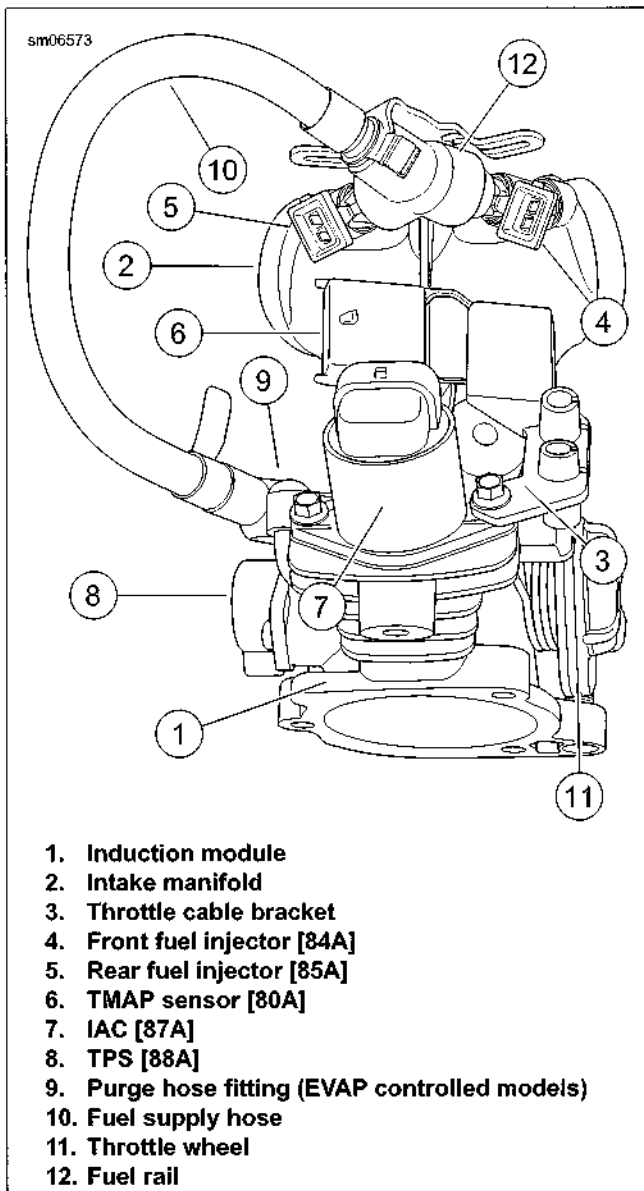

Figure 4-16. Induction Module Assembly
7. See Figure 4-16. Unplug the following connectors:
- a. Front fuel injector (4) connector [84],
- b. Rear fuel injector (5) connector [85],
- c. TMAP sensor (6) connector [80],
- d. IAC (7) connector [87],
- e. TPS (8) connector [88].
8. **EVAP models:** remove purge hose from fitting (9) on induction module (1).